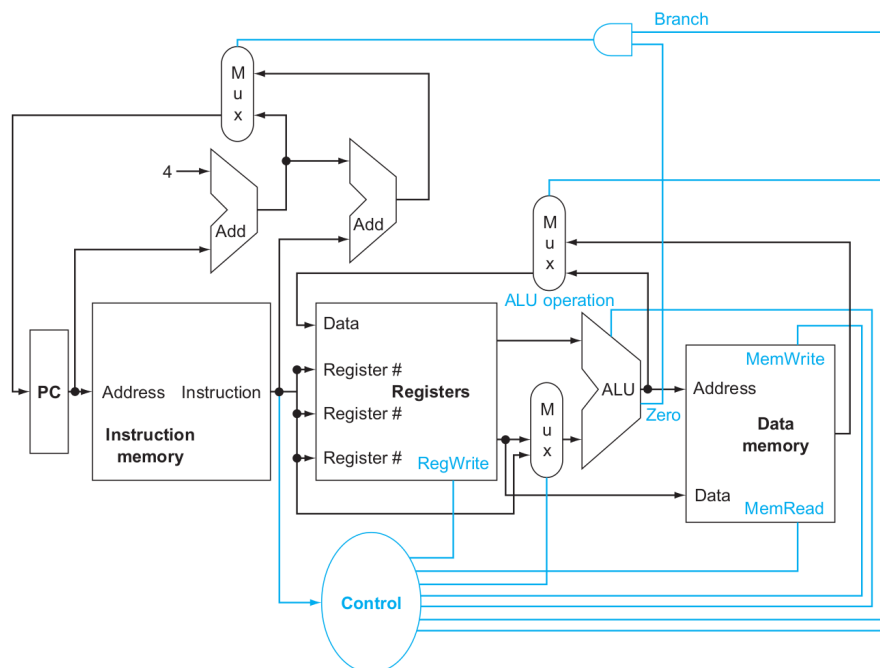

Figure 1: The basic implementation of the MIPS subset, including the necessary multiplexors and control lines.
**Q1** (15%) The basic single-cycle MIPS implementation in Figure 1 can only implement some instructions. New instructions can be added to an existing Instruction Set Architecture. Following questions refer to the new instruction: